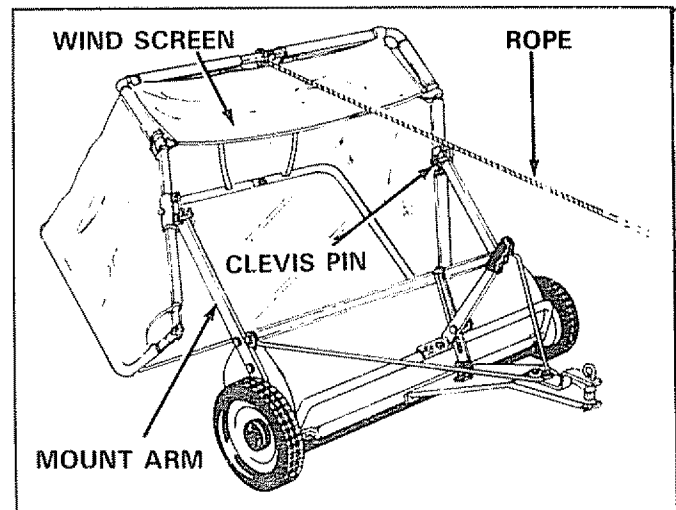

FIGURE 27
18. To assemble the hopper bag frame to the sweeper, simply hook the clevis pins into the notches in mount arms. Bag retainers must pivot freely to lock in position. See figure 27.